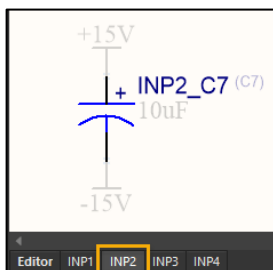

Figure 6. Compile tab for the second channel of the design
15. Click on the **INP2** tab and notice that the designator for the bypass capacitor is now `INP2_C7` instead of `C7`, as shown in Figure 6. This is a compiled view showing you the unique designators that will now be assigned to all the components in the multi-channel design.